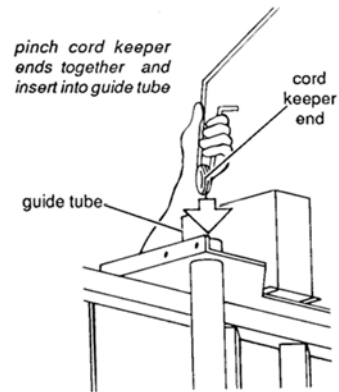
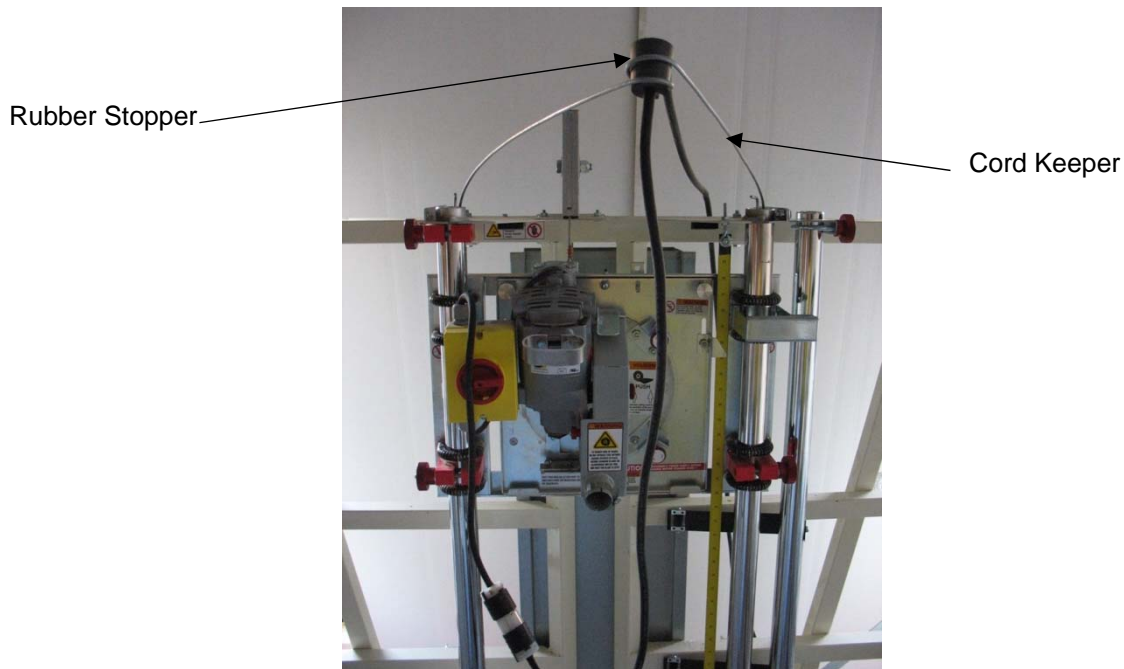

Figure 29: Installing the Cord Keeper
Figure 30: Cord keeper installed (SR5U)
1. Pinch the ends of the Cord Keeper together as shown in figure 29, page 30, while slowly sliding the ends into the guide tubes. Seat the ends securely, (Fig. 30).
2. Remove the rubber stopper from the ring in the Cord Keeper. See figure 30. Uncoil the cord, and place the plug end through the ring as shown, (Fig. 30). Connect the loose cord to the cord from the saw/router by inserting the plug and twisting to lock (if equipped with a twist-lock).